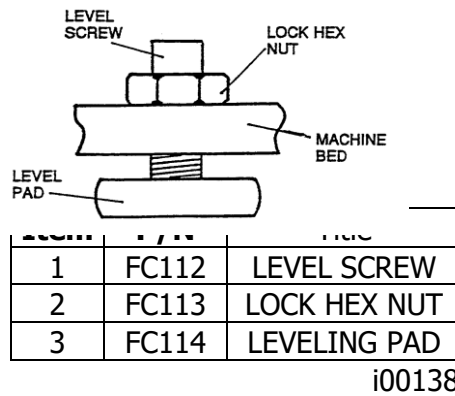

Figure 6 - Leveling Screws
1. Set the machine on its 4 leveling pads on a solid, level floor prepared in accordance with the state and local rules for machine tool installation as shown in Figure 6.